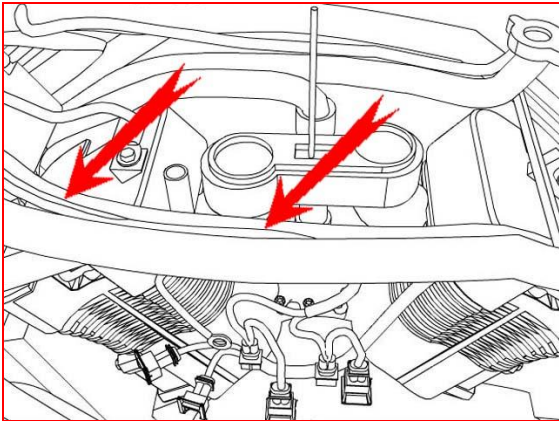

Figure 12
11. Continue pulling the TFI harness through, routing it on top of the main (plastic braid covered) harness. Route the connectors inside the frame, down through the engine V and out where the stock injector harness is. (see figure 12)